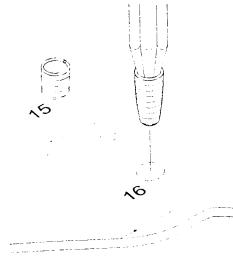

Figure 3
- From the top side of the cardboard panel, install 16 spring terminals into the 16 large, numbered holes; To make installation easier, use the pointed end of a pencil or ballpoint pen to push the spring through the holes and twist slightly. (See Figure 3.)